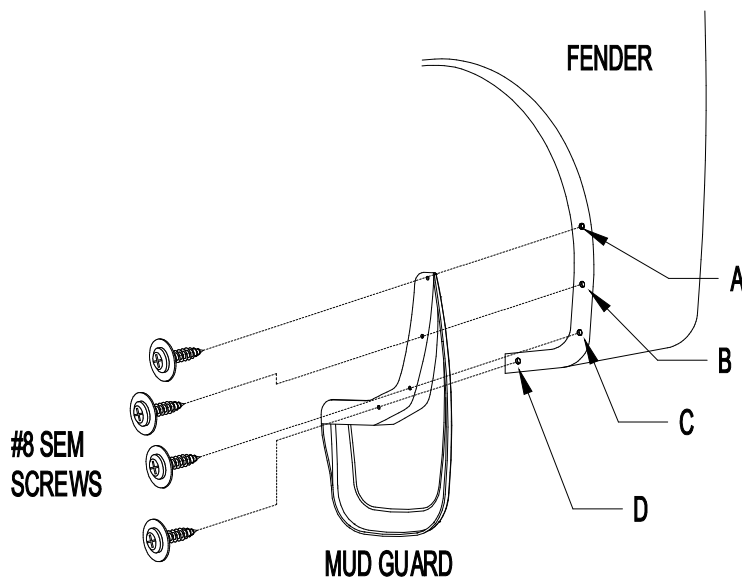

Figure 1
- #8 SEM Screw (8)
3. Install mud guard to rear fender with a #10 SEM screw at location B (Figure 1). Check fit and parallel and adjust accordingly before tightening.